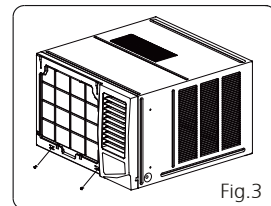

Fig. 3
1. Remove two screws at the bottom of the frame. (See Fig. 3)